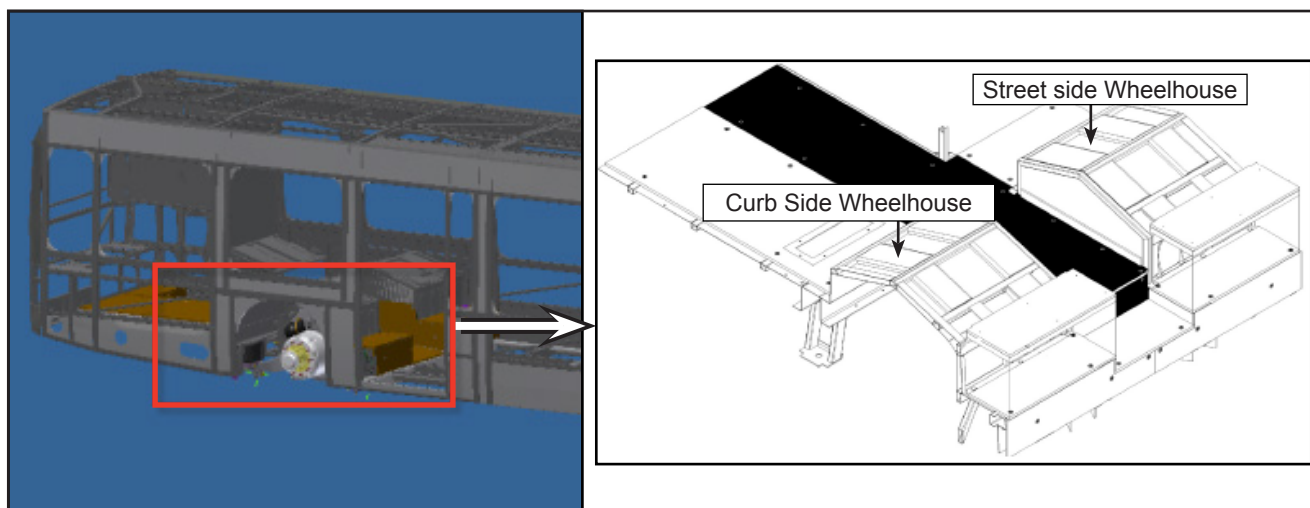

Figure 3 - Typical Location of Floor Covering
- 2.11. Locate the floor covering between the rear wheelhouses inside the vehicle (see Figure 3).